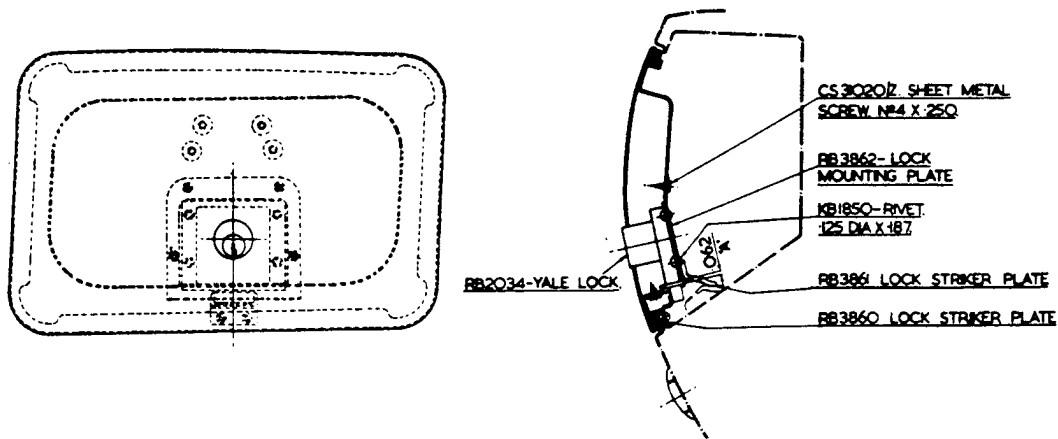

FIG. 3.
6. Weld the rear lock striker plate to the back of the lock mounting plate, ensuring that this is set  $1/16"$  (1.6 mm) inwards from the bottom edge of the mounting plate as shown in dimension "A" Fig. 3.
9. Remove the lock assembly and drill the inner door panel accordingly. Refit the lock assembly and secure to the door panel by means of the retaining screws as shown in Fig. 3.
10. Drill and secure the front striker plate to the interior flange of the filler compartment as shown in Fig. 3, using two 3-BA countersunk headed screws and nuts. Replace the rubber grommet after tightening the nuts.